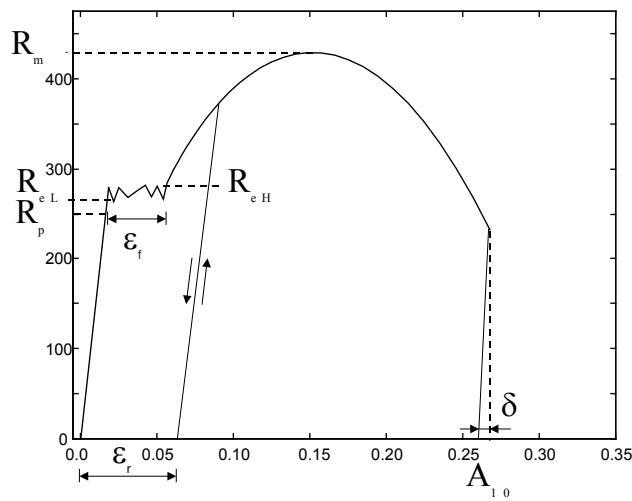
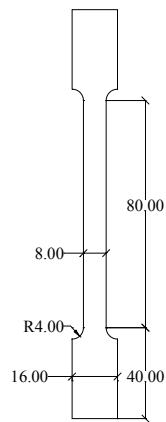

Figure 5:1 Stress - strain curve for hot-rolled steel
Figure 5.3 Test piece dimensions
Both alloy and non alloy steel is classified in the material tables in different terms, such as density, Poisson's ratio, and elasticity module. Steel stress and strain relationships are often interesting topics, and as early as the 17th century these were classified by R. Hooke (1635-1703) in the Hooke Law, "Out Tensio Sic Vis" as he put it in Latin, "As the tension, so the force" (1). With these words you actually describe a material's elastic properties. When tensioning, the linear range corresponds to up to R_p (σ_p), proportionality limit, see figure 5:1.
A material stress-strain curves contain a wealth of information. Tension is expressed as (2) and strain as (3). The tensile yield limit for soft steel with low carbon content is typically, σ_s , which is the tension at which the material begins to flow; the material undergoes plastic deformation. You usually divide the tensile yield limit to upper, R_{eH} (σ_{yu}), and lower yield limit, R_{eL} (σ_{yl}), see figure 5:1.
The offset yield stress is usually known as $R_{p0.2}$ ($\sigma_{0.2}$), see figure 5:2. The advantage of cold finishing is that both the tensile yield strength and breaking point are increased, but the breaking strain reduces which means that the steel can be considered as brittle.
For example, a test piece as shown in figure 5.3 are tensioned to breaking point in a tensioner figure 5:4. Material data is given in the table.